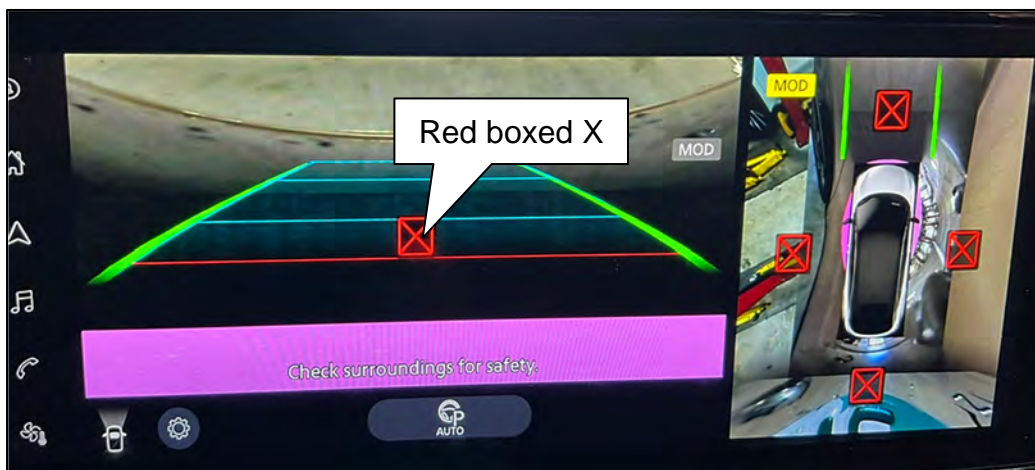

Figure 18
HINT: All four (4) cameras in Figure 18 require calibration.